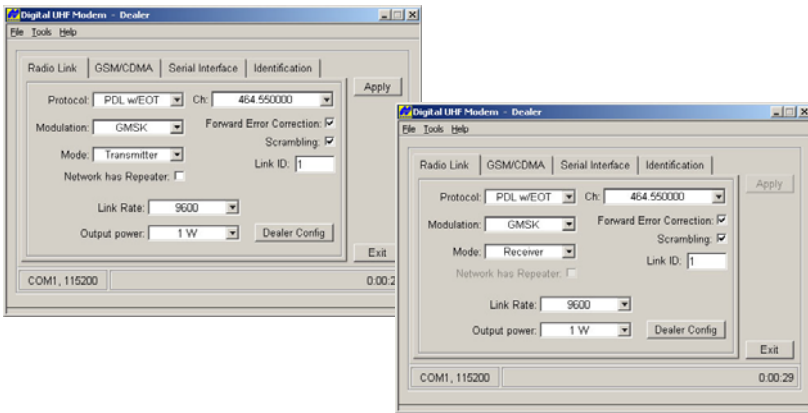

Figure 3-2. Apply Radio Link and Baud Rate Parameters
- On the *Radio Link* tab, set the following parameters (Table 3-1) for the base station's and rover's radio modem, and click **Apply** (Figure 3-2 on page 3-6).